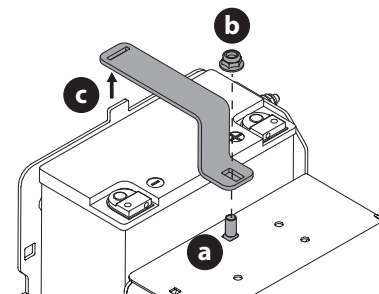

Figure 37
4. Locate and hold the carriage bolt (a) at the front of the battery bracket (c) to prevent it from falling (Figure 37).
5. Remove the hex lock nut (b) securing the battery bracket (c) in place. Save the carriage bolt and hex lock nut for later reinstallation (Figure 37).
6. Lift the battery bracket (c) off of the tab at the left side of the battery compartment and save for later reinstallation (Figure 37).